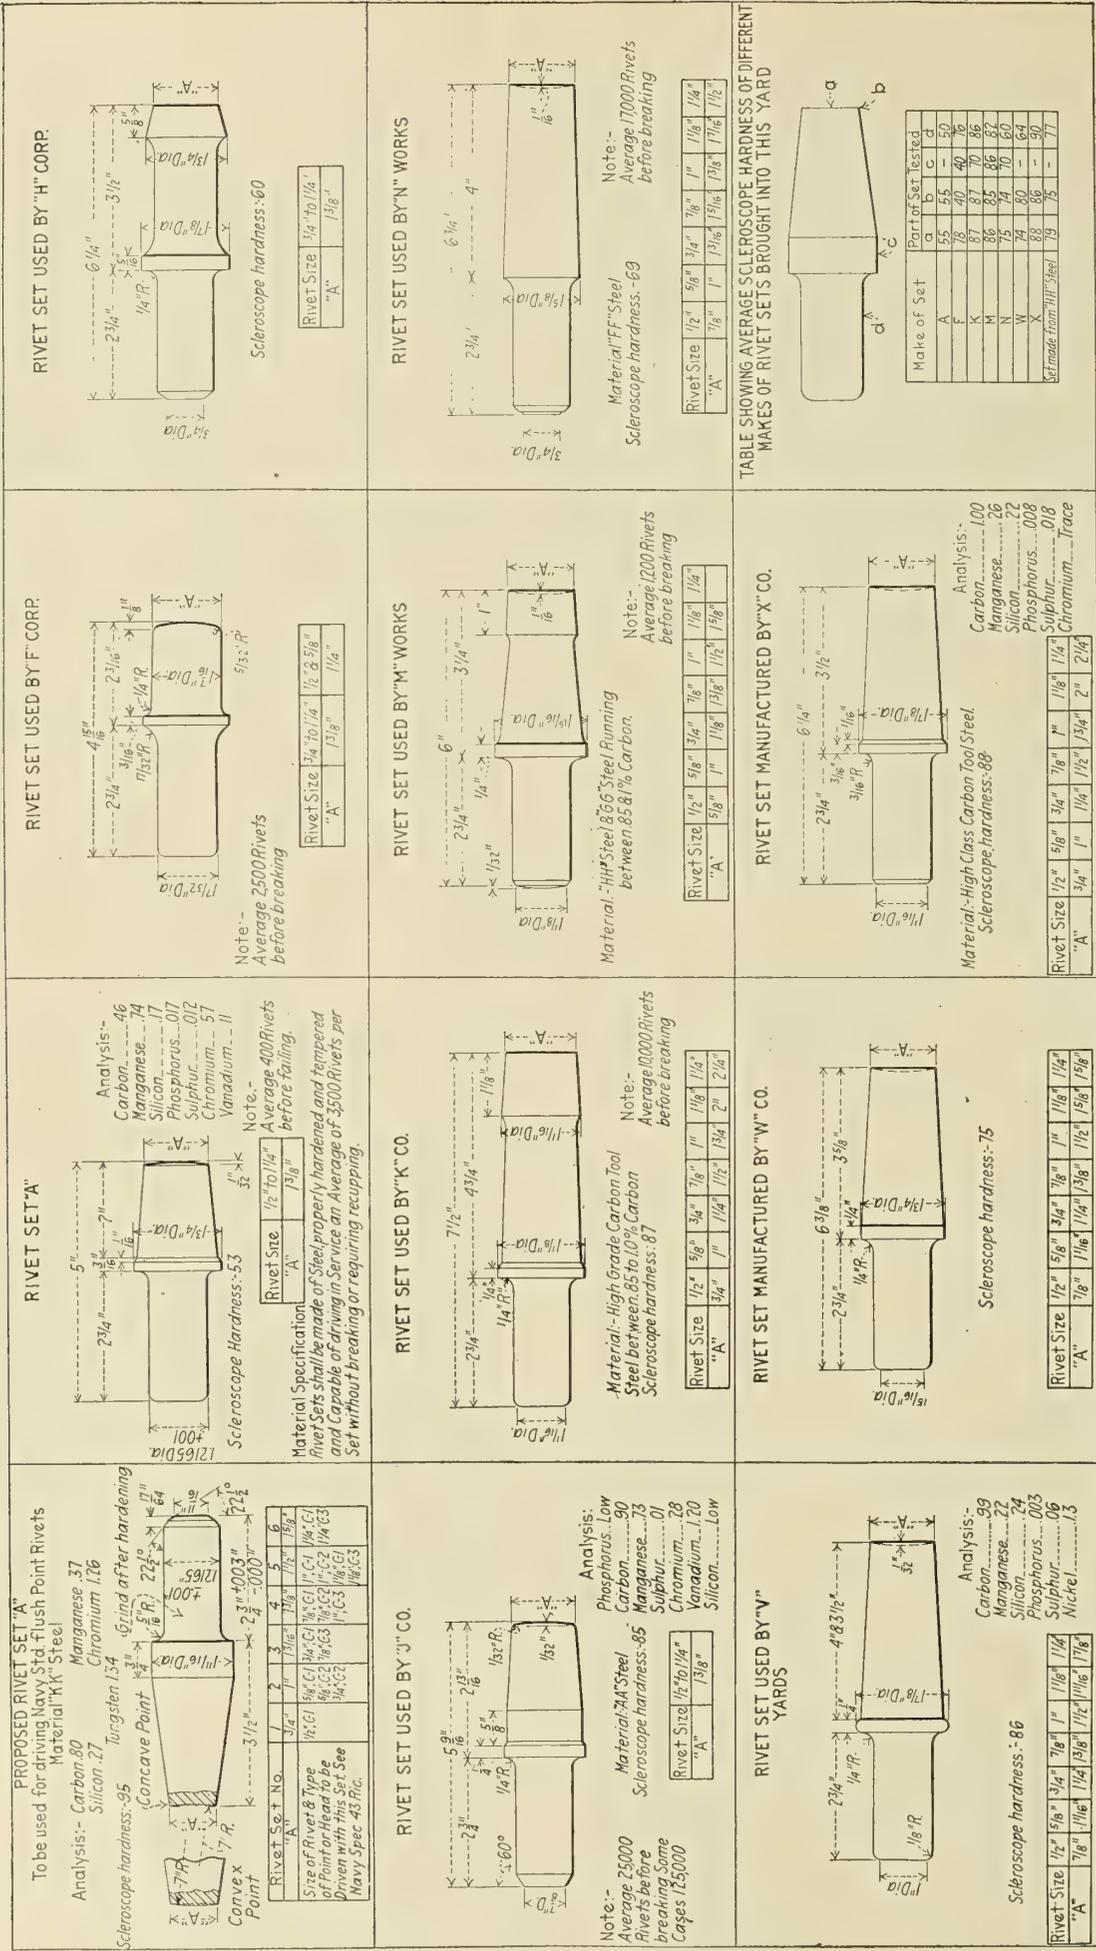

Fig. 9.—Flush Rivet Sets Used by Various Shipbuilding Firms in the United States for Driving Flush Point Rivets
While investigating rivet sets, twenty-one shipbuilding firms in the United States were interrogated, these firms representing geographically practically all shipbuilding sections of the country. In tabulating replies from the different shipyards, the results being shown in Figs. 9, 10 and 11, the first surprising fact that became evident was that the use of rivet sets with convex points was restricted to the east coast, while all the west coast and Great Lakes yards, and even some of the east coast yards, use rivet sets with concave points. When the concave point is used the concavity amounts to about 1/32 inch. Instead of rounding the edge of the set it is left sharp, so that it can be used to cut off the surplus metal remaining after the rivet holes and countersink are completely filled. This edge is also used to finish off and calk the rivet in a single operation.
It was found also, moreover, that of the twenty-one shipbuilding plants interrogated, not more than three of these plants use a single standard diameter of point of set, 1 3/8 inches being the diameter used when only one size is employed. When the convex point is used the diameter of the set may be maintained 1 3/8 inches. Where concave points are used, however, it is necessary to have the diameter of the point of the set equal to or slightly smaller than the diameter of the countersink. This necessitates the use of sets with points of several different dimensions, the variation between the diameter of the rivet and the diameter of the point of the set being from 1/4 inch to 9/16 inch. The variation in the size of sets used by various shipbuilding firms is illustrated by Figs. 9 and 10.
It was ascertained at this yard that the type of rivet set designed exclusively for use as a convex set would not give satisfactory service, if ground concave. In using, for instance, the set "A" shown near the left hand corner of Fig. 9 as a concave set the following objections were observed:
(17) Steel showing chemical content as follows has been found to give excellent results when made up into rivet sets, the set used being the design shown in Fig. 9 as the proposed standard "A."
It is considered that the proposed set shown in Fig. 9 eliminates all the objections encountered, the set being of the chemical content recommended elsewhere above. While this set is considerably heavier than the lighter set heretofore used, its increased life much more than makes up for the greater first cost. Its greater output at one grinding likewise removes a source of great annoyance. The inertia of the heavier set will, it is believed, result in less vibration of the gun, while its great reliability will prevent the frequent recourse to the tool room, will not afford the riveters excuses for small output, and will better the morale of the working force besides being more popular with the piece workers.